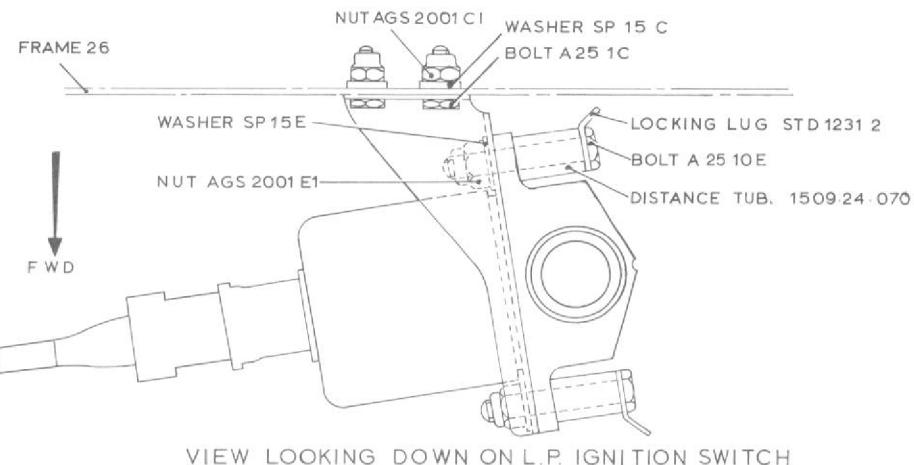

Fig.5 L.p. ignition switch installation
(2) Remove the locking wires and disconnect the fuel pipes from the switch. Slacken other ends of pipes and move clear.
(3) Remove two bolts, etc. securing the switch to the mounting bracket.
(4) Apply an air pressure of 70 lbf/in2, then release the pressure.
(5) Repeat (4) four times.
(6) Apply a gradually increasing air pressure and check that the circuit is broken between pins A and B and made between pins A and C, at between 40 and 45 lbf/in2.
(7) Decrease the pressure to 20 lbf/in2; check that continuity is restored between pins A and B, then release the pressure and remove the test equipment.
(8) Fit the switch to the mounting bracket as shown on fig.5.
(9) Re-connect fuel pipes, tighten and wire-lock connections with stainless steel locking wire.
(10) Re-connect electrical cable.
(11) Prime the system as detailed in para. 9 and check for leaks.